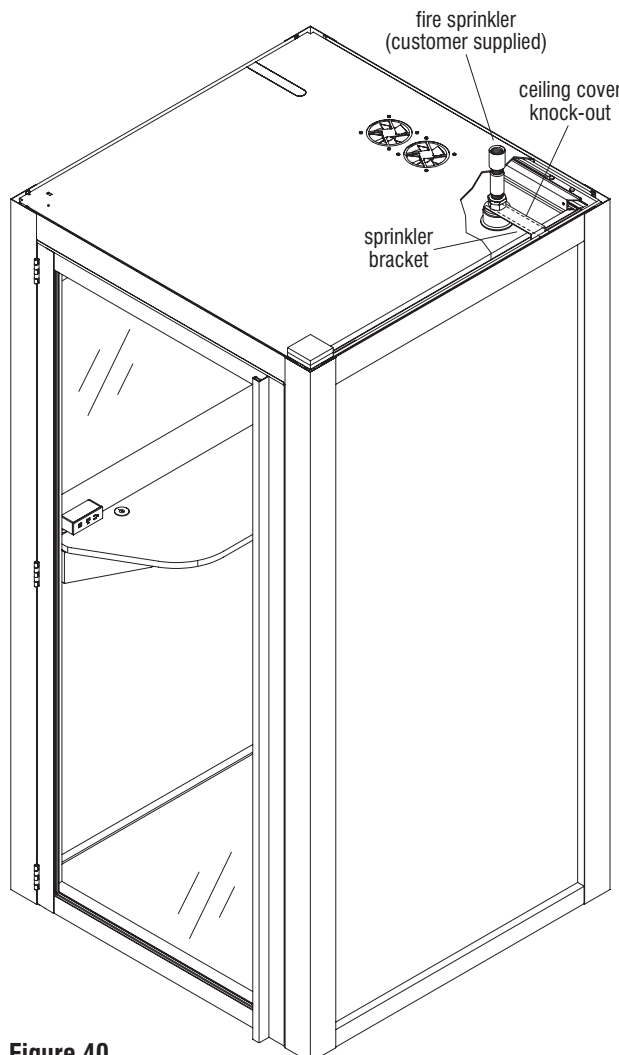

Figure 40
1. Remove the knock-out on the ceiling cover opposite of the door hinge side of the pod (Figure 40 & Detail L3).